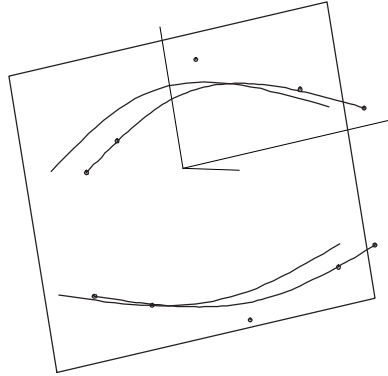

Fig. 13
- 3 **Select the lower curve ('xcv14')**, and make another **Projected Curve**. **OK** to accept all defaults. (Fig. 13).